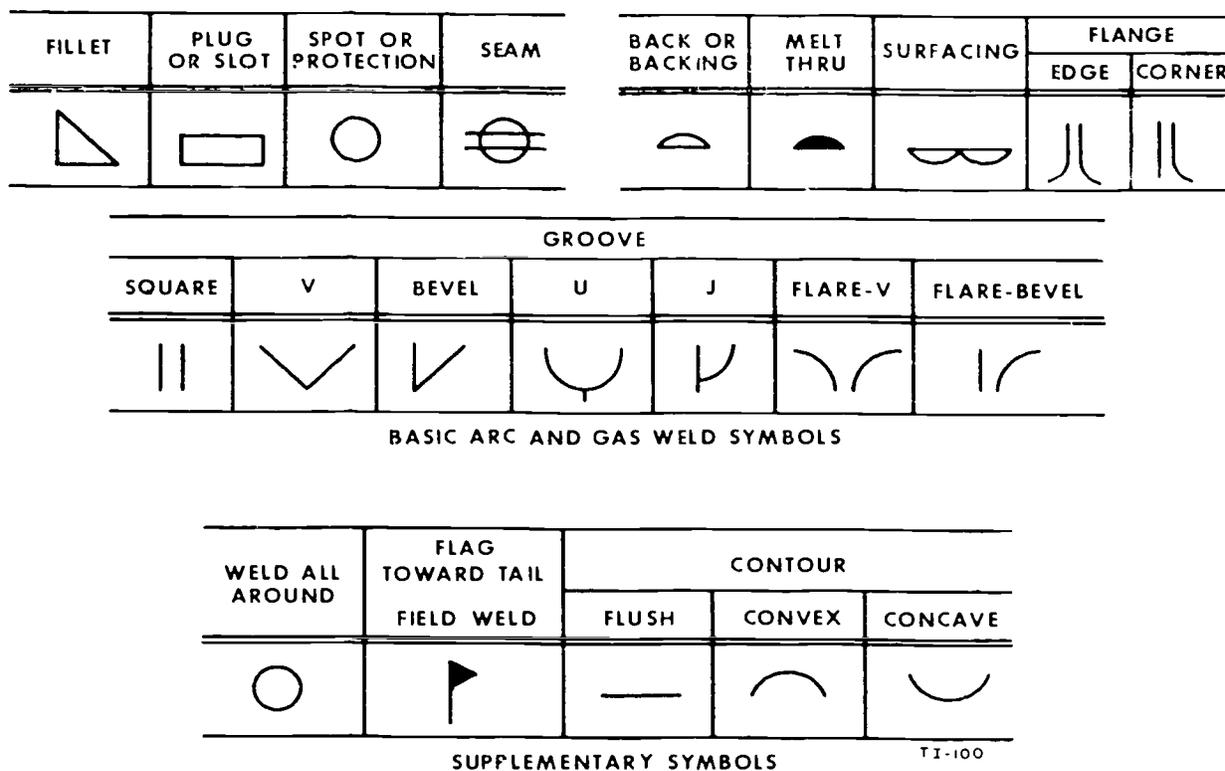
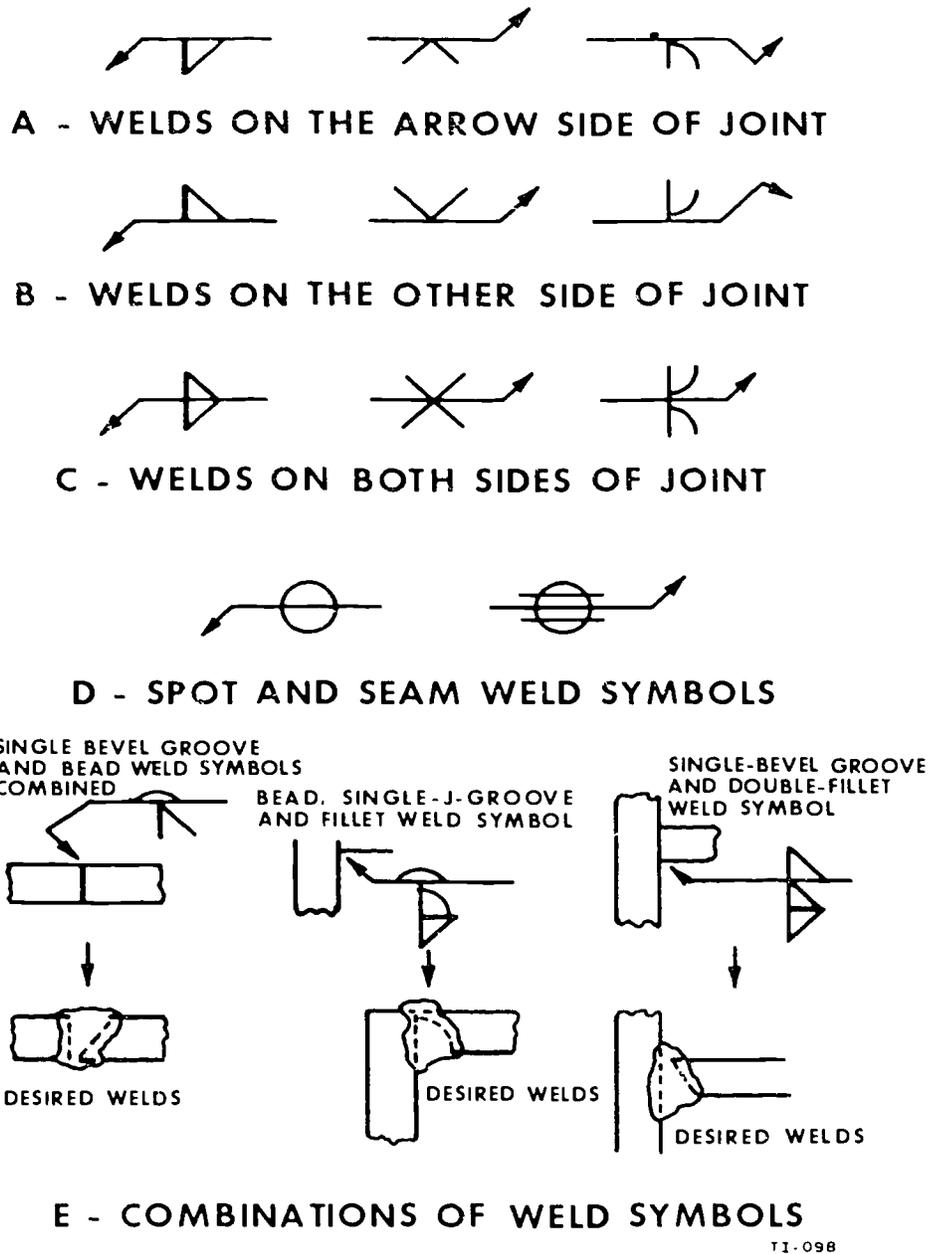

Figure 2-10. Basic weld symbols.
Figure 2-11. Symbols indicating type and location of welds.
There is a distinction between the terms "weld symbol" and "welding symbol." The weld symbol is the symbol (as in fig. 2-10, details A and B) that indicates the desired type of weld. The assembled welding symbol contains the following elements: reference line, arrow, basic weld symbol, dimension and other data, supplementary symbols, tail, and the specification process, or other reference.
a. Arc and gas weld symbols are those signifying bead, fillet, plug or slot, square, V, bevel, U, and J welds, as illustrated in figure 2-10, detail A.
b. Resistance weld symbols are those signifying spot, projection, seam, flash, and upset welds, as illustrated in figure 2-10, detail B.
d. Supplementary symbols designate requirements that are common in many welding processes and include symbols for weld-all-around, field weld, and flush and convex contour welds, as illustrated in figure 2-10, detail C.
Welds on the arrow side of the joint are indicated by the weld symbol on the side of the reference line toward the reader, as in figure 2-11, detail A. Welds on the other side of the joint are indicated by the weld symbol on the side of the reference line away from the reader, as in figure 2-11, detail B. Welds on both sides of the joint are indicated by the weld symbols on both sides of the reference line, as in figure 2-11, detail C.
The symbols for spot, seam, flash, and upset welds have no arrow side or "side" significance in themselves, although supplementary symbols used with these symbols may have. For example, the flush-contour symbol shown in figure 2-10 is used with the spot and seam symbols in figure 2-11 to show that the exposed
surface of one member of the joint is to be flush. Spot-, seam-, flash-, or upset-weld symbols are centered on the reference line as in figure 2-11, detail D. If more than one type of weld is to be used on a joint, the symbol for each weld is shown as indicated for the types of welds that are illustrated in figure 2-11, detail E.